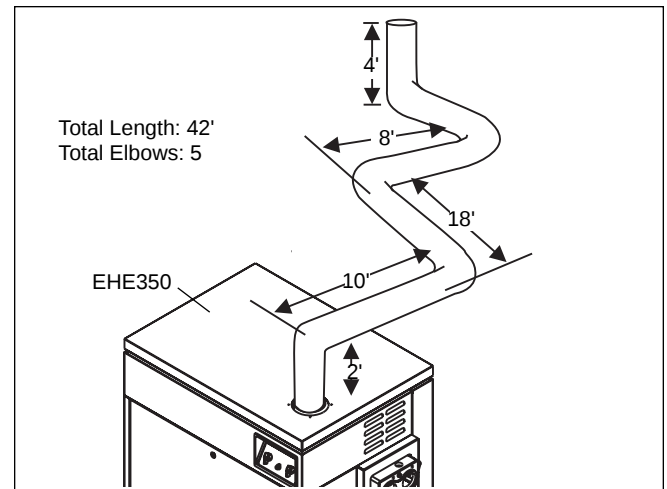

Figure 6. “One-pipe” installation.
1. A Model 350 heater is to be installed in a one-pipe system (see Figure 6). The vent pipe is 42 feet long and has five elbows. Per Table 3, 5" piping must be used. (Only 16 feet of 4" vent pipe would be allowable.)